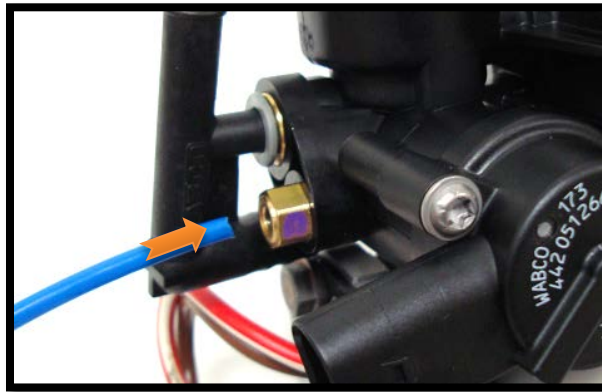

Figure 7.0
- 2.3 Push pressure line into new fitting until it bottoms out; pull outward to verify hose is secure in pressure line fitting. (figure 7.0)